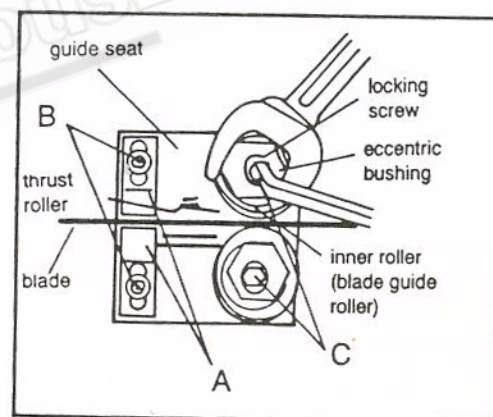

Fig. 10
2. Loosen blade guides (A, Fig. 10) by loosening screws (B, Fig. 10). Slide blade guides away from blade.
3. Loosen locking screws (C, Fig. 10) by using a hex wrench.
5. Tighten locking screws (C, Fig. 10).
6. Slide blade guides back into contact with blade and tighten screws (B, Fig. 10).